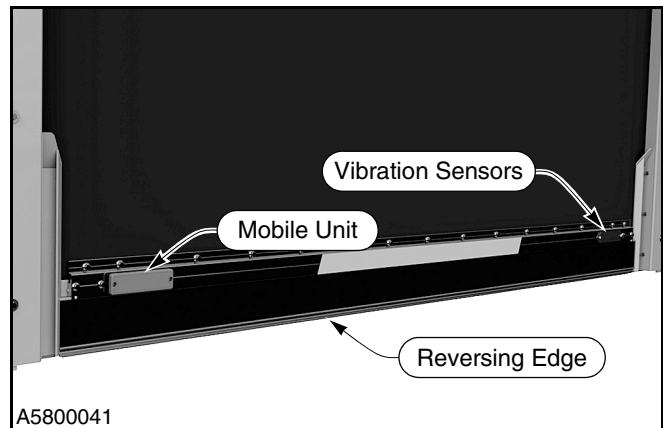

Figure 21
7. Inspect the sealed reversing edge for tears or abrasions. An improper seal will make the door malfunction and not change direction upon impact. (See Figure 21.)